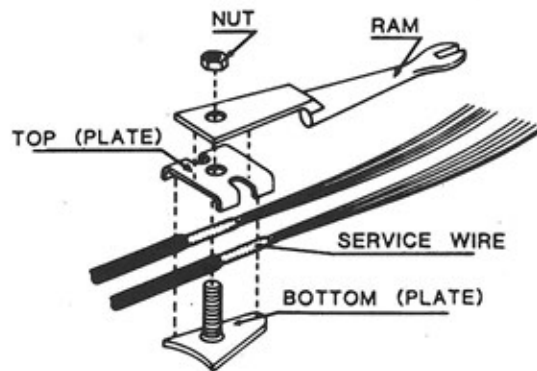

Fig. 5
**4.01** Install shield connector on armored shield, positioning bottom plate as shown in Fig. 5 with stud between the two service wires. Place the top plate over the stud. Place the ram over the top plate and tighten nut securely.